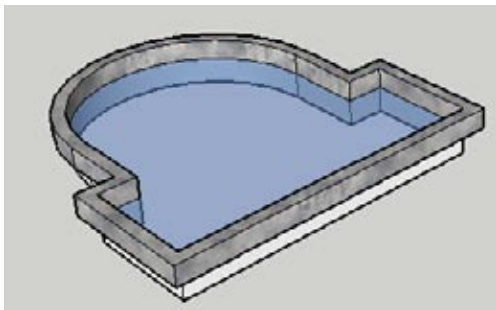

Figure 7-58
6. Now you can create the component that will cut the front face of the wall. Use Offset to make the frame and pull it up so that the frame will extend in front of the wall. Paint the window face with a translucent material (Figure 7-58).